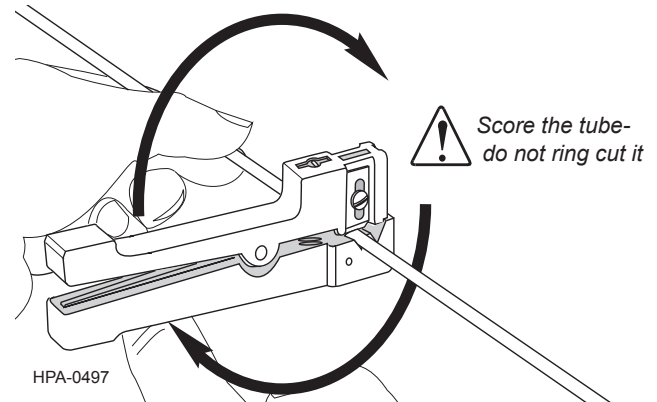

Figure 9
- c. Use your other hand to rotate the tool around the tube two to three complete turns to score it (Figure 9).